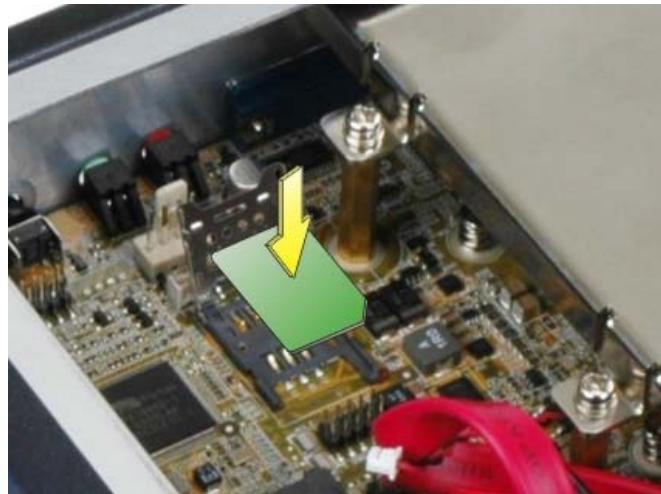

Figure 3-22: SIM Card Installation
Step 5: Place a SIM card on the slot as shown in **Figure 3-22**.